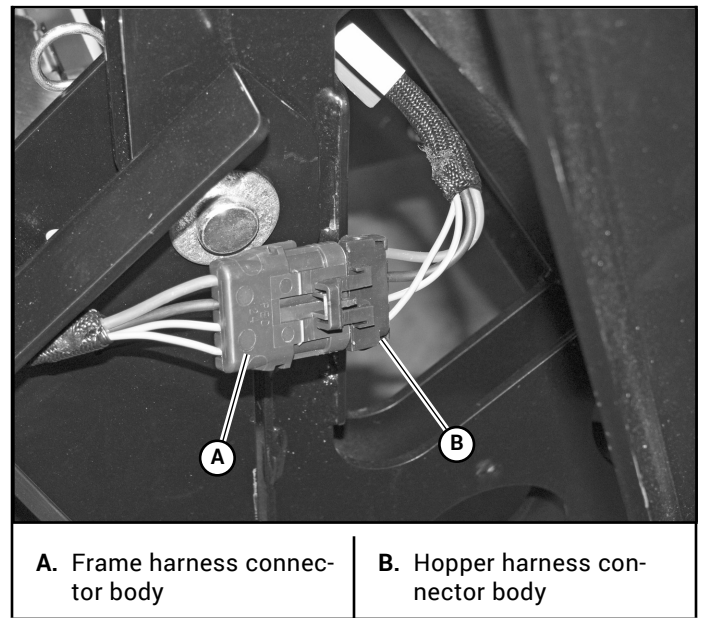

Figure 3-57
2. Connect the BAC-VAC™ frame harness connector body to the hopper's harness connector body. Figure 3-57